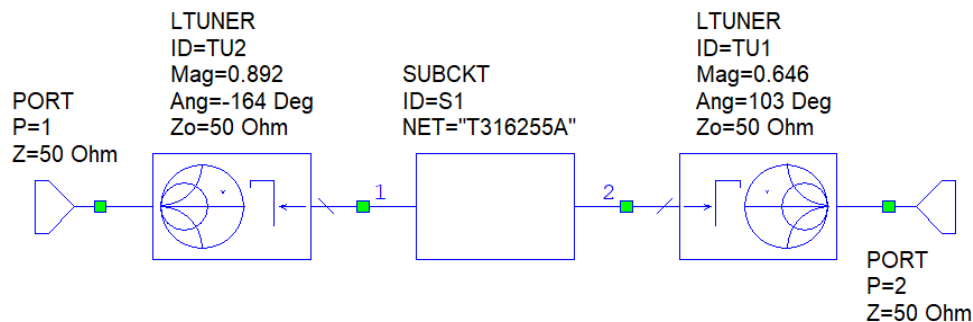

Fig. 3 Schematic of the ideally matched transistor using two LTUNER elements.
- The calculated GM1 and GM2 values can be verified by connecting two LTUNER elements and the transistor into a new schematic called Ideal Match. The schematic is shown in Fig. 3. The LTUNER, which can be found in the ELEMENTS – GENERAL – PASSIVE – OTHER folder, is a virtual element which transforms 50 Ω impedance to a defined reflection coefficient (Mag, Ang). The input LTUNER renders GM1 and the output LTUNER renders GM2.